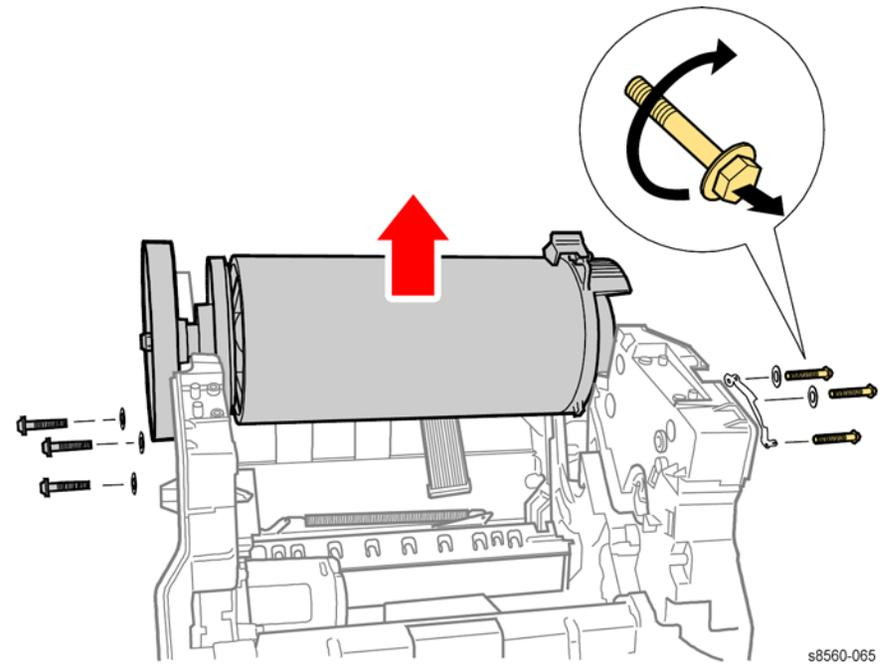

Figure 3 Removing the Drum Assembly
17. Remove 3 (metal, 5.5 mm hex-head) screws, 2 washers, and the Ground Plate from the right side of the Drum Assembly as shown in Figure 3. These are **reverse-threaded** screws as indicated on the label attached to the Drum.